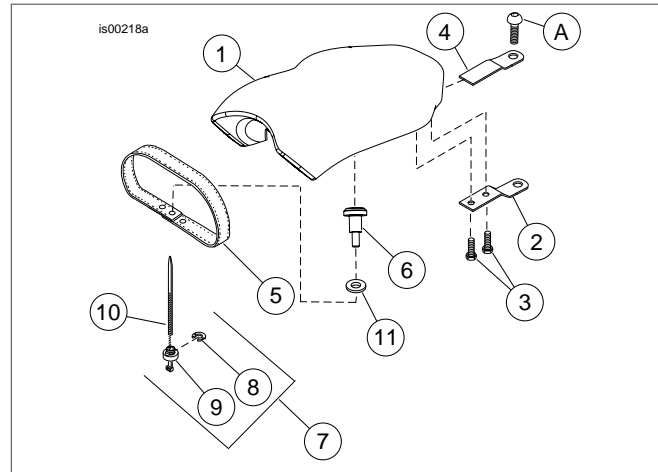

Figure 3. Service Parts: Kit 51404-10 Shown
See Figure 3, Table 1.
2. **For Kit 54089-10 Only:** See Figure 3. Clean the rear fender thoroughly and set the pillion into place on the rear fender. Remove the adhesive backing from each bumper (12), position the bumpers under the decorative rivets on the pillion and install bumpers on the fender. Press each bumper firmly into place.
3. Install top hat washer (11) between shoulder bolt and solo seat mounting bracket.
5. **For All Models:** See Figure 3. Install the shoulder bolt (6) through the grab strap (5) and into the grab strap mounting hole in the fender.
7. **For Kit 51404-10:** Slide pillion (1) through grab strap then and engage the shoulder bolt in the slot in the bottom of the pillion. Slide pillion forward until the pillion is fully engaged on the shoulder bolt.
9. Install mounting screw (A) through seat bracket (2 or 4). Tighten securely.